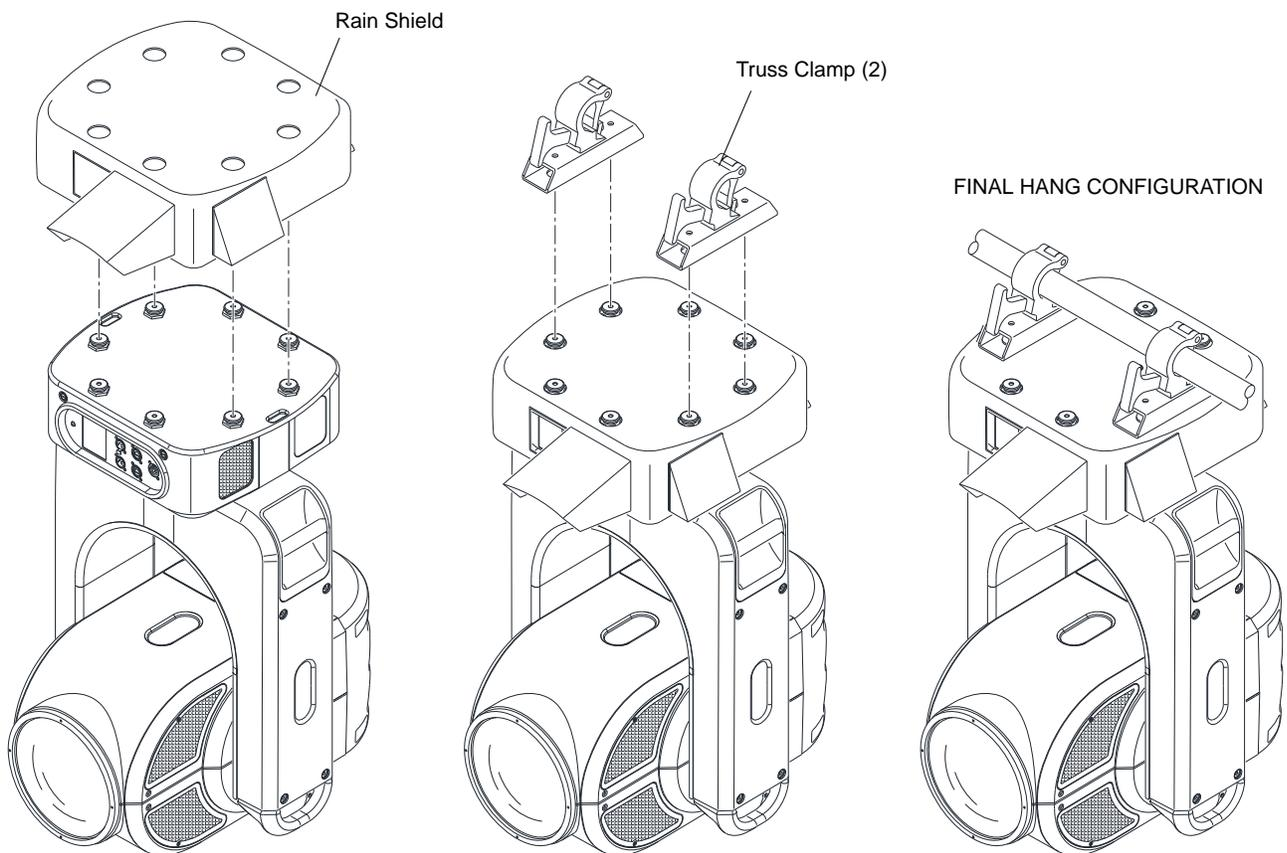

Figure 3: Installing Hanging Rain Shield 2
- Step 2. Install rain cover (10.9812.0033) as shown in **Figure 3**.